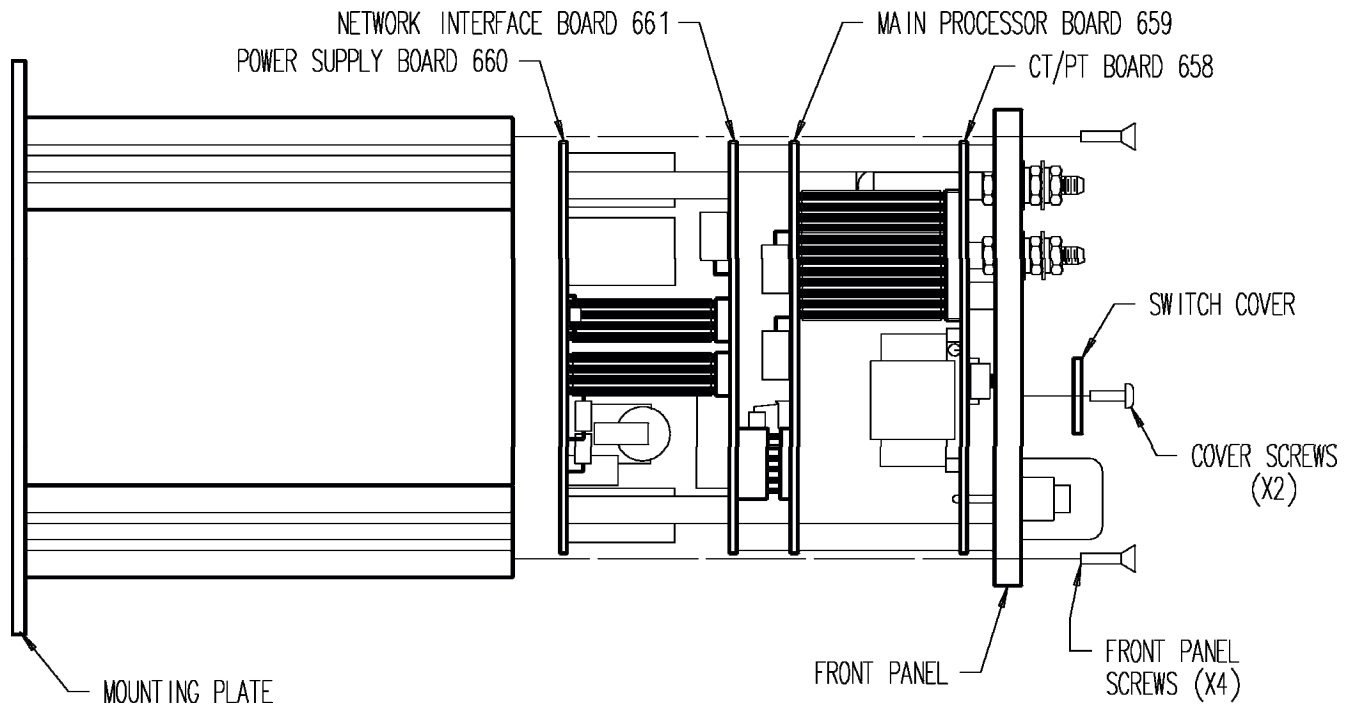

Figure 1 – Transducer exploded view
The Bitronics PowerPlex RT(H) Digital Transducer is composed of four Printed Circuit Board Assemblies, as shown in the exploded view of the meter (Figure 1). They are the back panel and Current Transformer & Potential Transformer Board, the Main Processor Board, the Network Interface Board, the Power Supply Board. Additionally, a small section is separated from the Network Interface Board (containing the output connector, address switches, and indicator lights) at the time of manufacture and placed next to the CT/PT Board on the front panel. The CT/PT Board contains primarily passive components (transformers, connectors, etc.). Ninety percent of the active electronics (Integrated Circuits, diodes, etc.) are contained within the Main Processor and Network Interface boards. Detailed descriptions of each of the boards can be found in the following sections.